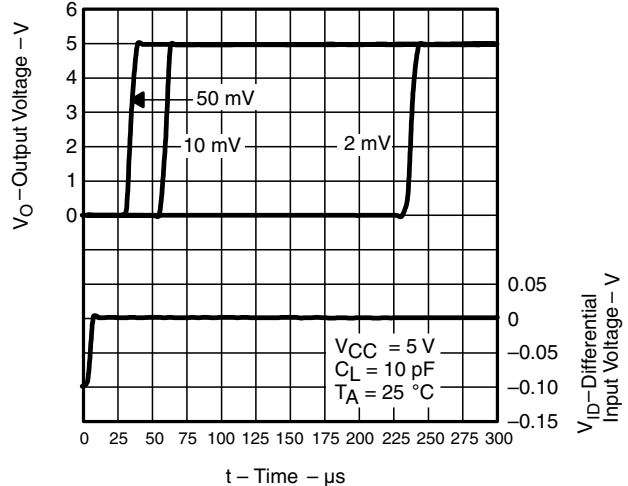

Figure 12. High-to-Low Level Output Response for Various Input Overdrives
- (1) The response time specified is the interval between the input step function and the instant when the output crosses 1.4 V. Propagation responses are longer at higher supply voltages, refer to **Figures 12 – 17** for further details.
- (2) The definition of start-up time is the time period between the supply voltage reaching minimum supply (V_{CCmin}) and the device IQ activating (I_{CCmin}) with a valid device output voltage. Single device only.